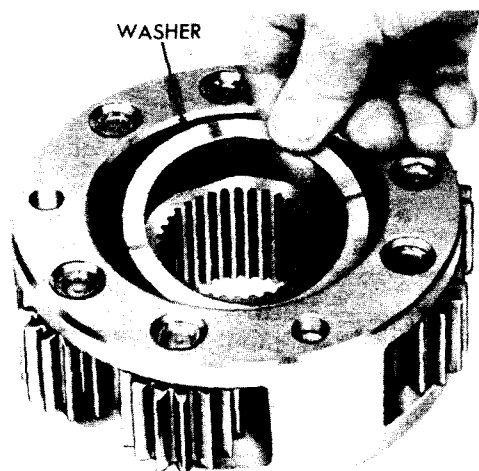

Fig. V-19. Removing (or installing) low-range planetary carrier thrust washer
(5) Remove the low-range planetary carrier assembly. Remove the thrust washer from the front side of the carrier (fig. V-19). Refer to sect. VI, para 20 for rebuild of the carrier assembly.